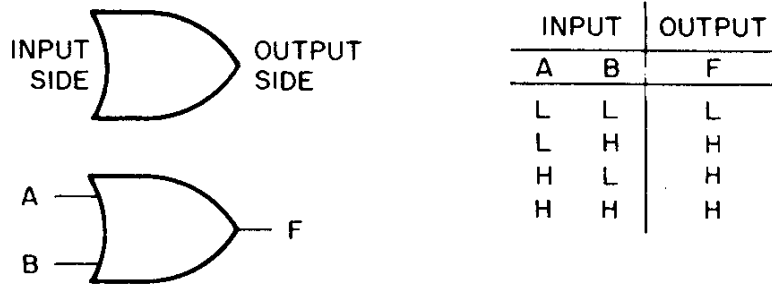

Figure 8-2 Symbol, OR Function
- b. OR—The symbol in Figure 8-2 represents the OR function. The OR output (F) is high if any input (A or B) is high.